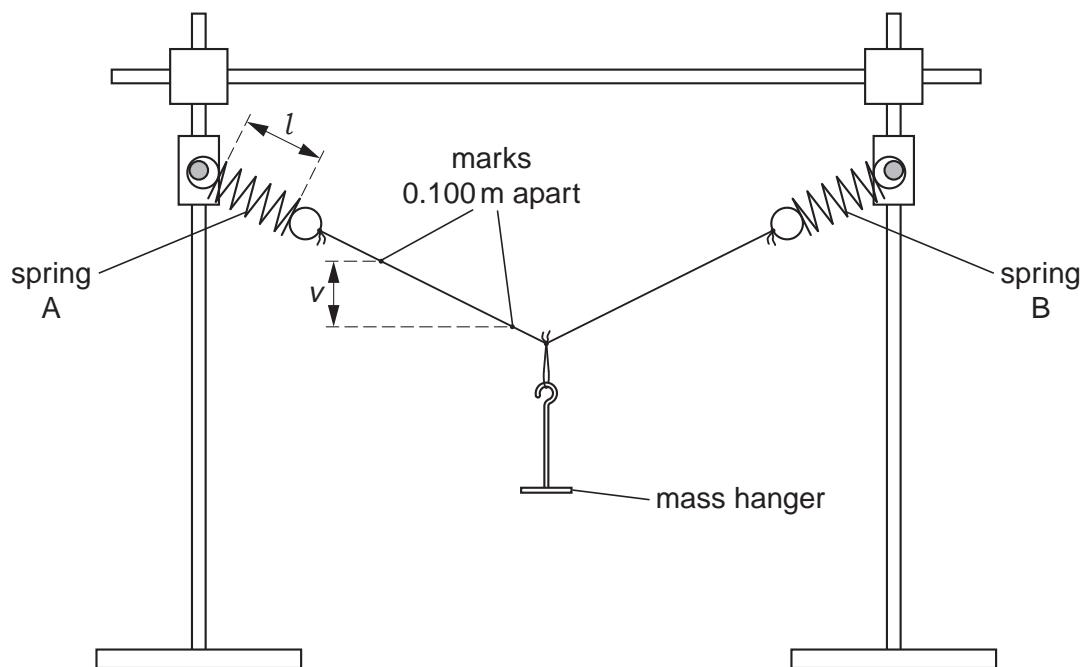

Fig. 1.1
Complete the assembly by suspending the mass hanger (with no masses on it) from the central loop, as shown in Fig. 1.1.
- Measure the length l of the coiled section of spring A, as shown in Fig. 1.1.
- Measure the heights of the marks above the bench and use these to find the vertical separation v of the marks (see Fig. 1.1).